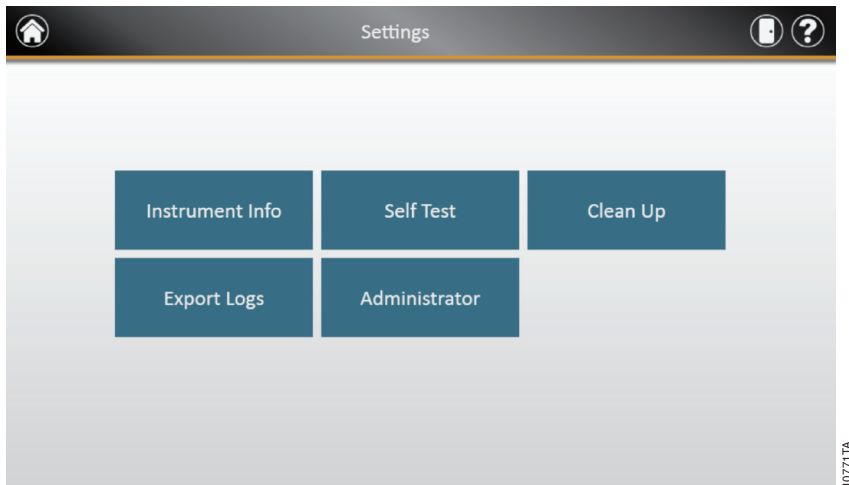

Figure 31. Maxwell® CSC Settings screen. From this screen you can access Administrator settings for the Maxwell® CSC Instrument options.
2. On the Settings screen select the **Administrator** button. If the current operator logged into the Tablet PC has administrator access rights the Settings screen (Figure 31) will display an Administrator button. By touching the **Administrator** button the administrator will gain access to functions that determine the performance characteristics of the Maxwell® CSC User Interface and Instrument.